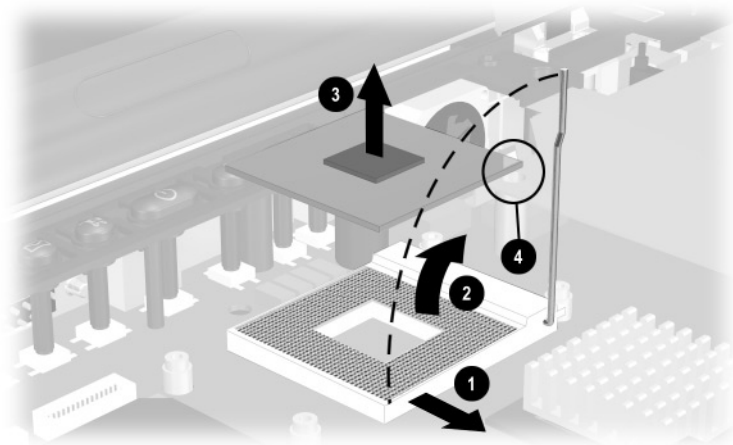

Figure 5-22. Removing the Processor
2. Slide the left end of the processor release bar ❶ forward until it clears the clip on the processor bracket (Figure 5-22).
3. Swing the processor release bar up and to the right ❷ until it rests in an upright position.
4. Lift the processor straight up ❸ and remove it from the processor socket.